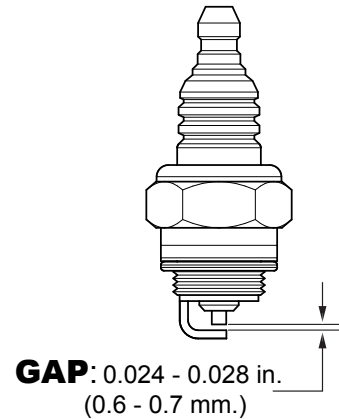

Figure 31. Spark Plug Gap
1. Remove and clean the spark plug (Figure 31), then adjust the spark gap to 0.024 ~0.028 inch (0.6~0.7 mm). This unit has electronic ignition, which requires no adjustments.